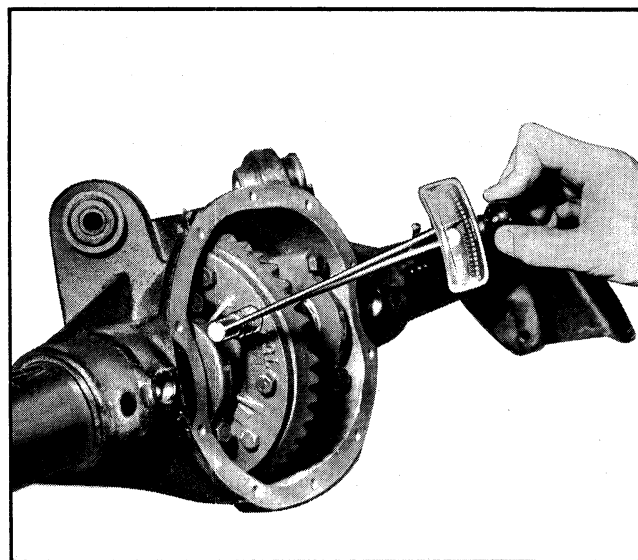

Fig. 4-43 Checking Differential Side Bearing Preload
7. Rotate differential case several complete turns to seat bearing. Check bearing preload using a lb. in. torque wrench connected at ring gear attaching bolt. With wrench projecting approximately straight out, bearing preload should read 30-40 lb. in. with new bearings, or 20-30 lb. in. with reused bearings. Fig. 4-43. If preload is not according to these specifications, increase shim thickness on each side .002" for each additional 10 lb. in. preload desired, or decrease shim thickness .002" on each side for each 10 lb. in. preload to be subtracted.